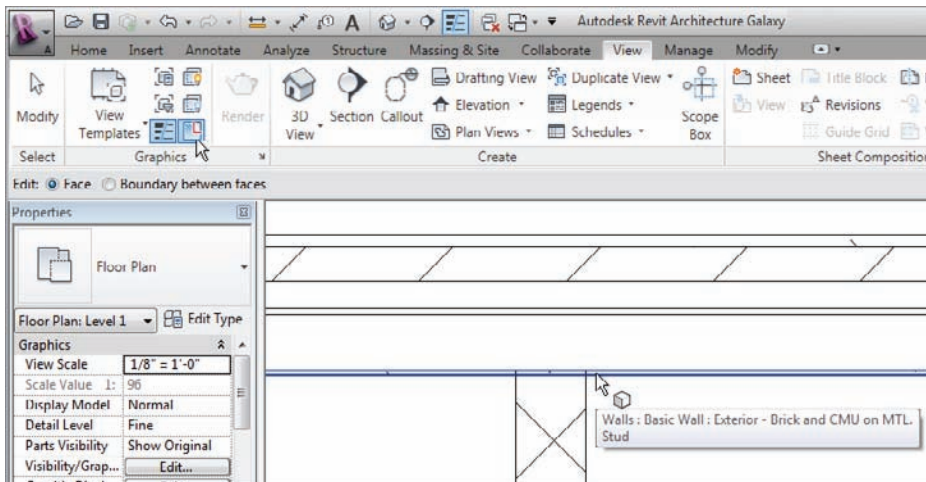

FIGURE 2.61 Click the Cut Profile button, and select the gypsum.
6. On the Graphics panel of the View tab, click the Cut Profile button, as shown at upper-left in Figure 2.61.
7. Pick the finish face of the exterior wall. You're selecting the gypsum layer to be cut out of the shaft (see Figure 2.61).